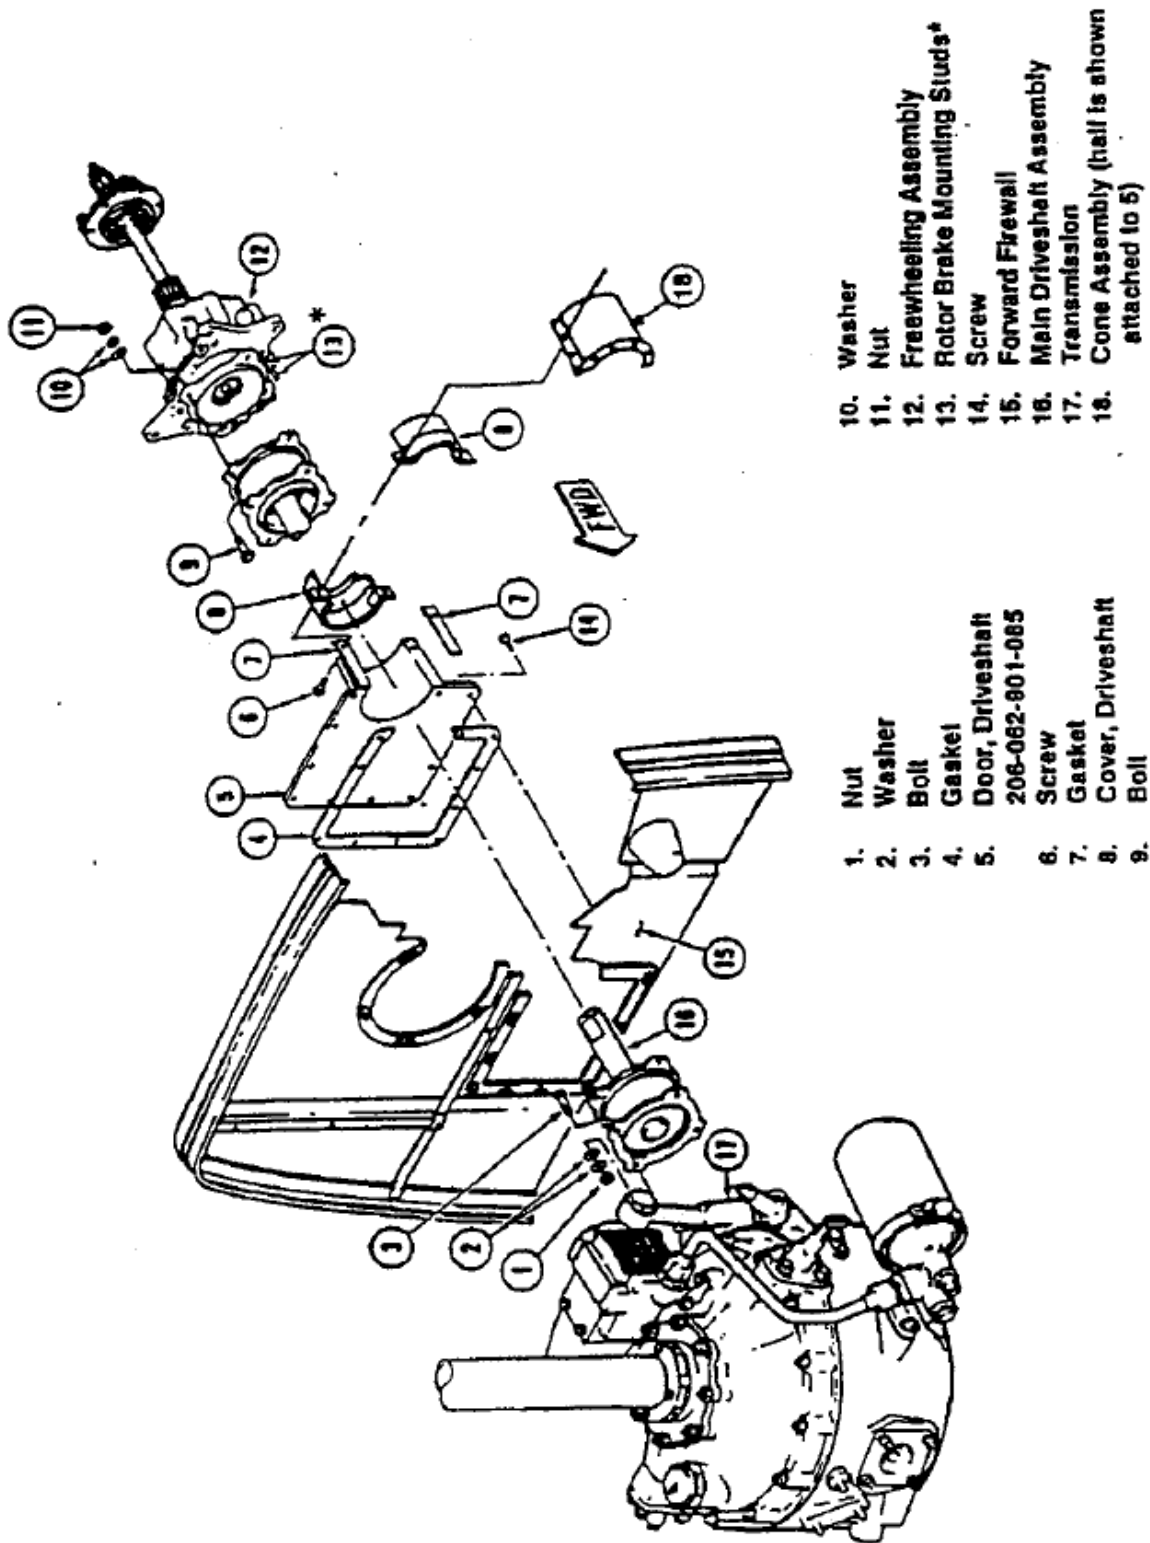

FIGURE 1: Existing Installation Main Driveshaft P/N 206-040-100-13
2. Removal of Driveshaft (Figure 1) P/N 206-040-100 or 206-040-015
3. Firewall, Driveshaft Door Rework (Figures 1 and 2)
- b. Remove both halves of cone assembly (Figure 1, Item 18)
- c. Remove driveshaft cover assembly (Figure 1, Items 8)
Inspect driveshaft door for cracks, damage and corrosion (Figure 1, Item 5). If these conditions exist, replace driveshaft door before proceeding.